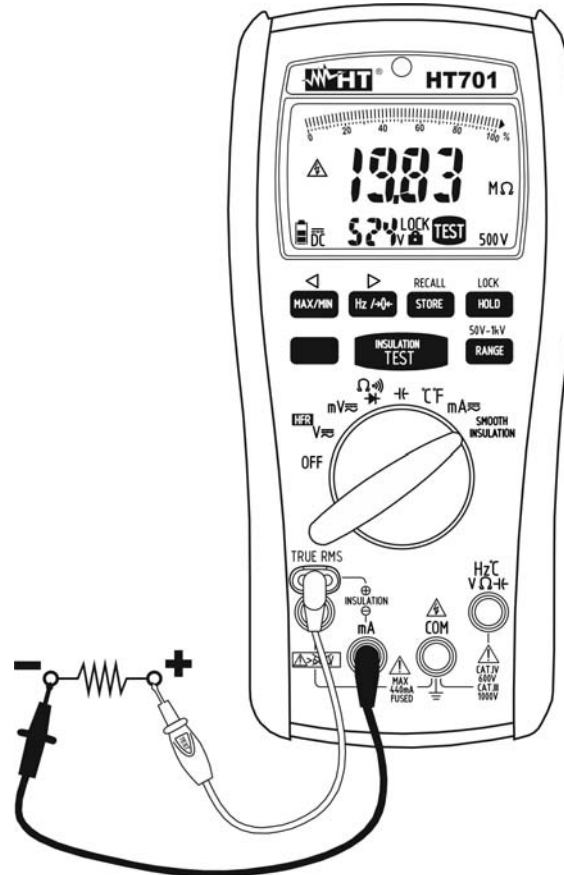

Fig. 10: Use of the instrument for Insulation measurement
5. Insert the red remote probe into input lead “⊕” and the black cable into input lead “⊖” (see Fig. 10).
6. Position the leads at the ends of the circuit to be tested, respecting positive and negative polarity (see Fig. 10). If necessary, use the alligator clips.